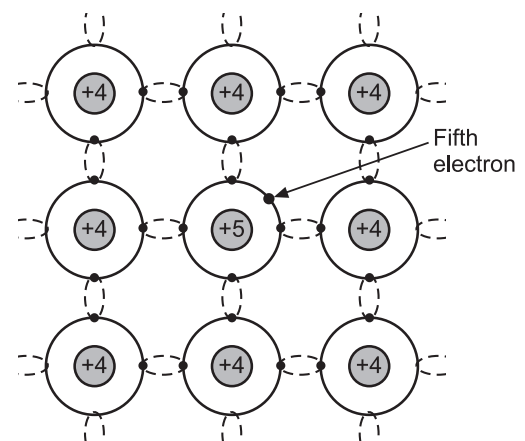

Fig. 1.8 : N-type semiconductor
- Consider the structure of an N-type semiconductor as shown in Fig. 1.8.